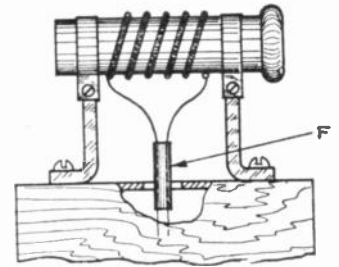

FIG. 3
Connect this element with a piece of Duplex cable (F), as shown in Fig. 3.